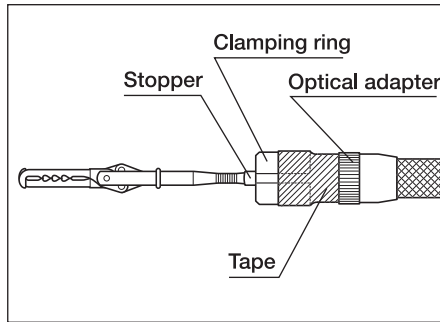

Figure 3.7
6. Insert the alligator unit so that the stopper on the clamping ring at its distal end hits the optical adapter at the distal end of the scope, and fix the clamping ring and the distal end of the insertion section using a piece of tape (see Figure 3.7).